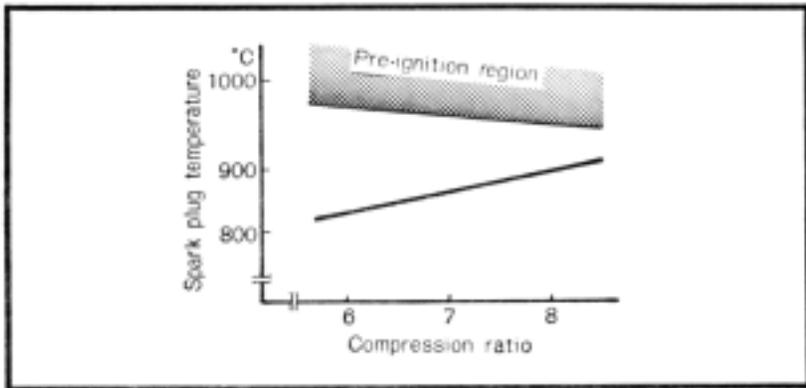

Fig. 5-6. A high compression ratio means power and high temperature.
- **Compression ratio.** The higher the compression ratio, the more efficient the engine, and the hotter the chamber (Fig. 5-6).